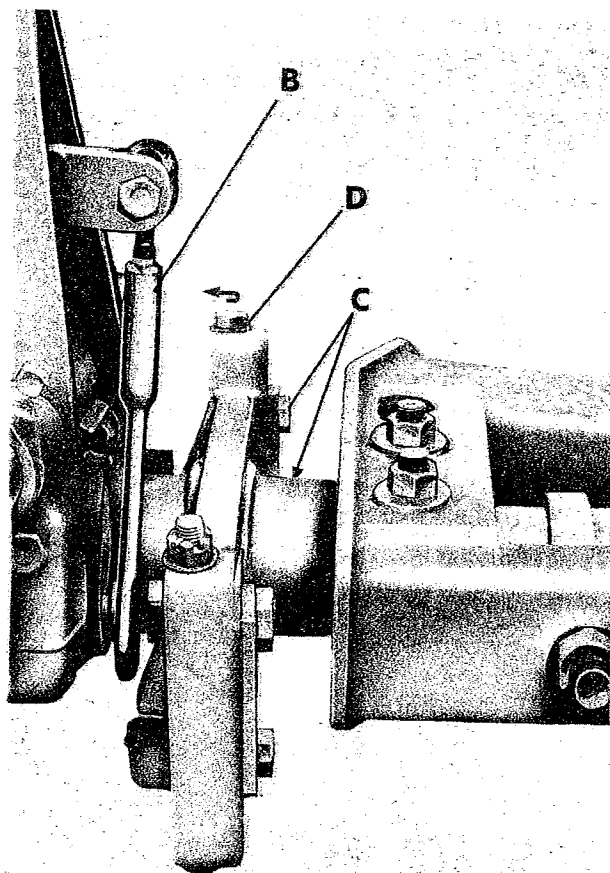
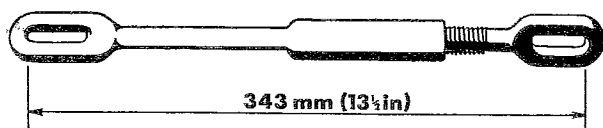

Fig. 7
Fig. 7a
If it is found that the plough reverses too quickly the connecting rod 'B' (Fig. 7) should be lengthened (Fig. 7a).
13. LEVELLING THE PLOUGH (Fig. 7)